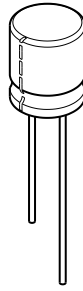

Fig. 4
- 7 An electrolytic capacitor is shown in Fig. 4.